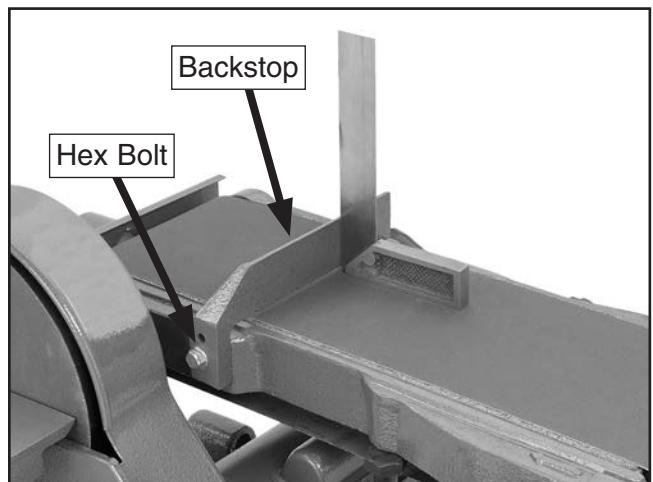
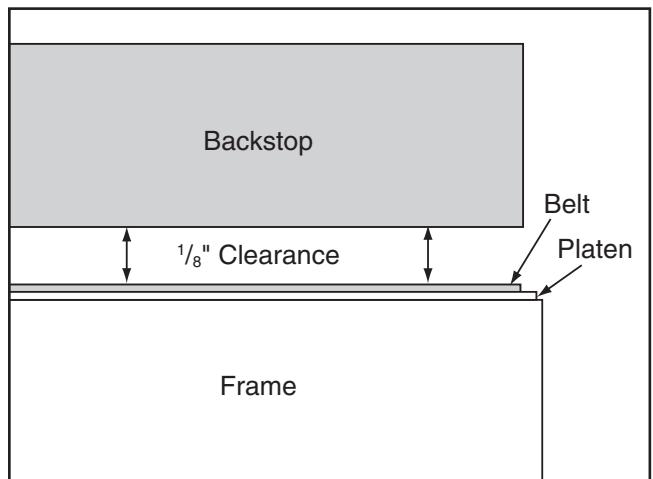

Figure 40. Adjusting backstop square with belt.
Figure 41. Correct clearance between backstop and belt.
- 30.** Place a square flat against the sanding belt and back stop (see **Figure 40**) adjust the backstop flush with the square on both sides of the belt and $\frac{1}{8}$ " above the belt (see **Figure 41**), then tighten the hex bolt.